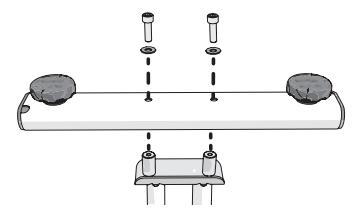

Figure 4
2. Attach the front stabilizer to the frame using two bolts 1 and two washers 2 (Figure 4). Using a hex key 11, tighten the bolts to 15.6 ft-lb (21.2 N-m).